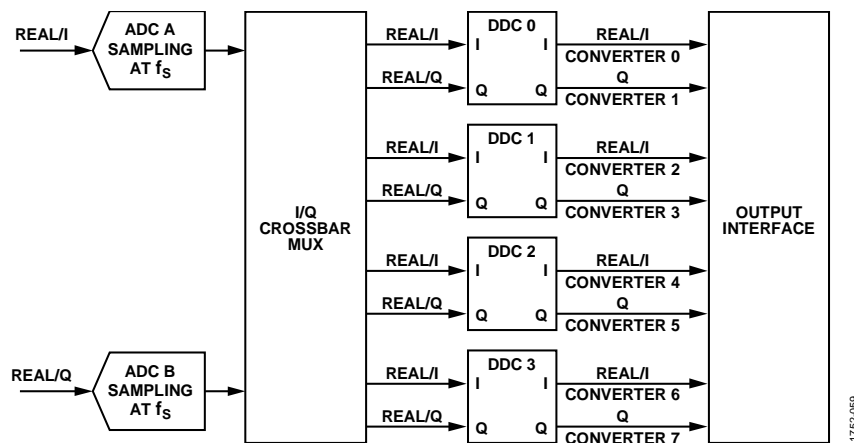

Figure 168. DDCs and Virtual Converter Mapping
The JESD204B Tx block for AD9680 supports up to four DDC blocks. Each DDC block outputs either two sample streams (I/Q) for the complex data components (real + imaginary), or one sample stream for real (I) data. The JESD204B interface can be configured to use up to eight virtual converters depending on the DDC configuration. Figure 168 shows the virtual converters and their relationship to the DDC outputs when complex outputs are used. Table 25 shows the virtual converter mapping for each chip operating mode when channel swapping is disabled.
If the internal DDCs are used for on-chip digital processing, M represents the number of virtual converters. The virtual converter mapping setup is shown in Figure 168.